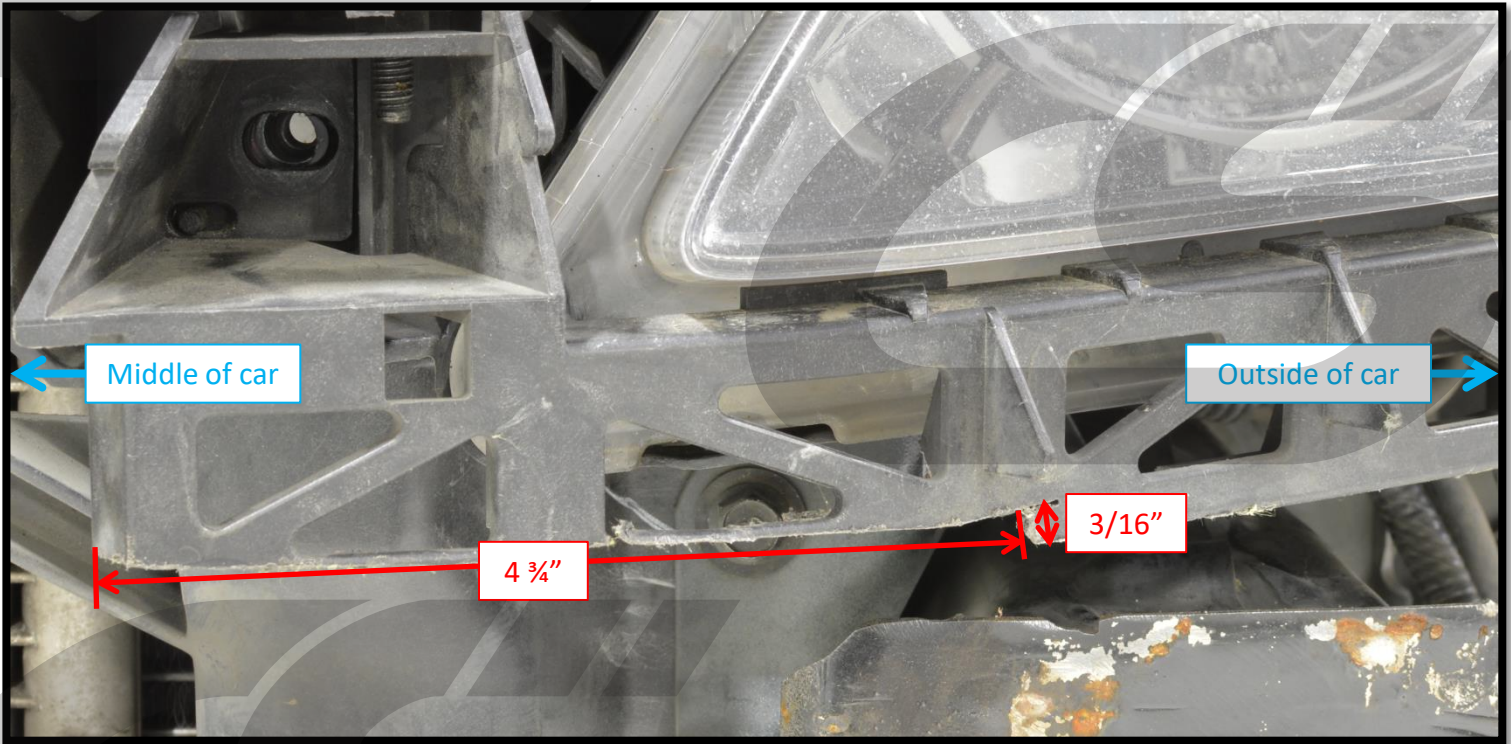

Figure 6b
- c) **Trim the OE headlight surrounds.** From the bottom of the headlight, trim up **3/16 inches**. From the inner edge of the headlight, trim **4 3/4 inches** outwards. See **Figure 6b** for clarity.